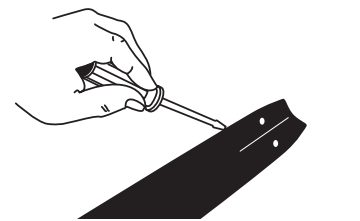

Fig. 13
2. Using a screwdriver, putty knife, wire brush or other similar instrument, clear residue from the rails on the guide bar (Fig. 13). This will keep the oil passages open to provide proper lubrication to the bar and chain.